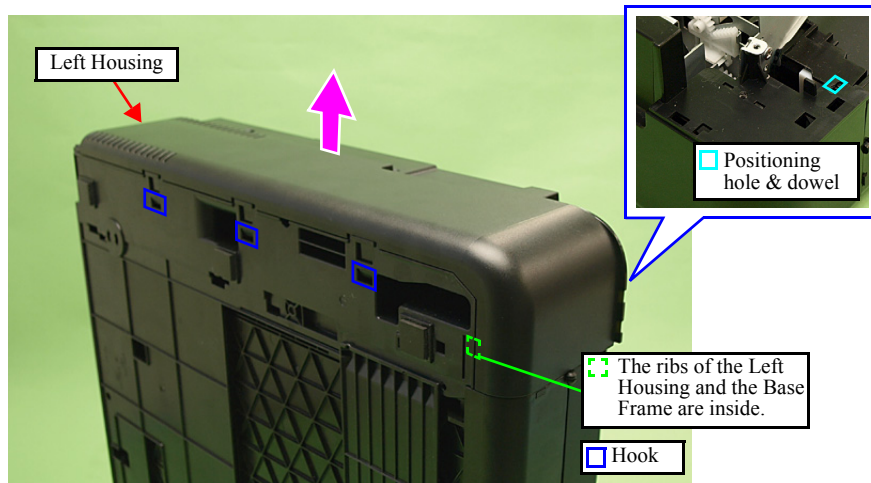

Figure 4-22. Removing the Left Housing / Decoration Belt L (2)
- Align the positioning hole of the Left Housing with the dowel of the Base Frame. (See Fig. 4-22.)